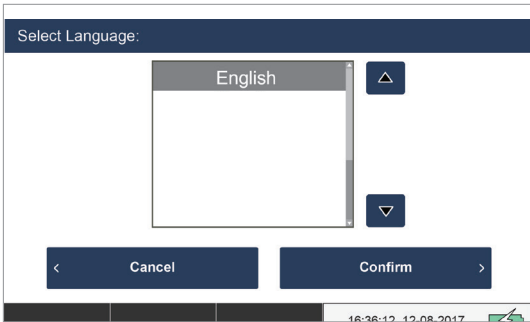

Figure 16 Select Language Screen
1. To change the language, press the  on the **Enter Password** screen. Select your language using the Up and Down arrows. Then press Confirm (see Figure 16).